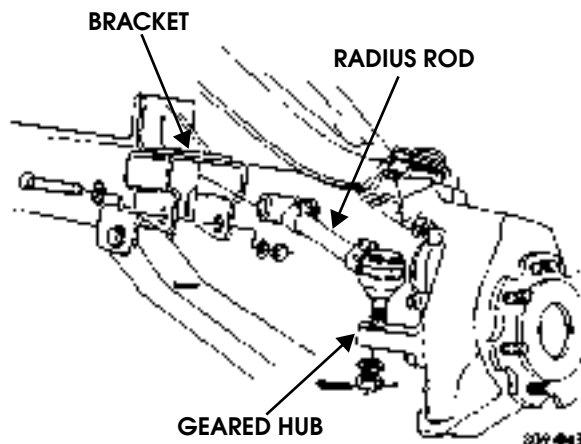

Figure 9-4: Radius Rod Replacement
2. Remove cotter pin, slotted nut, and washer securing radius rod to geared hub (Figure 9-4).
1. Install radius rod on bracket with washer, bolt, washer, and locknut. Tighten locknut to 260 lb-ft (353 N•m) (Figure 9-4).